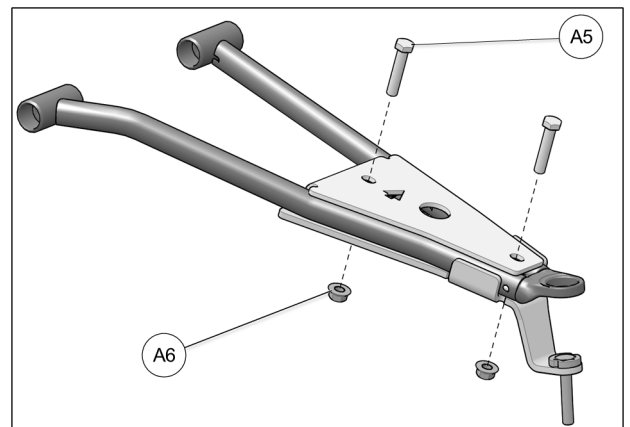

Fig. 17
6. Insert M10x50 mm bolts (A5) through the top and secure the two parts together with nuts (A6) provided. Tighten assembly to 50 N•m [37 lb•ft] of torque. See Fig. 17